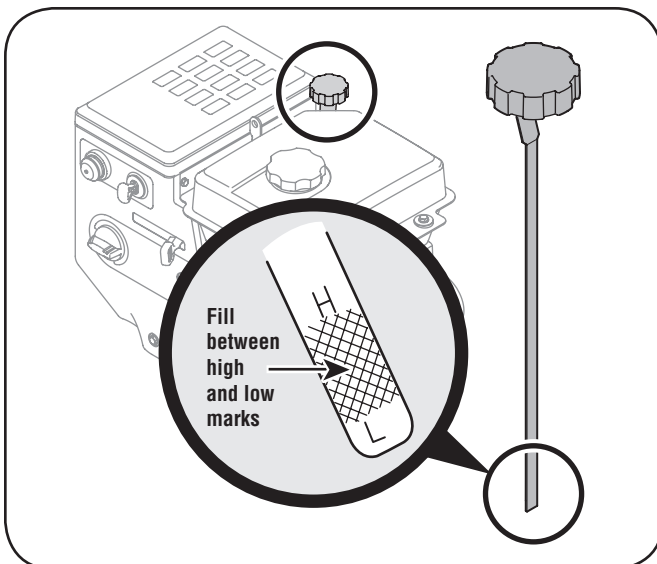

Figure 6-1
3. Remove the oil filler cap/dipstick. If level is low, slowly add oil until oil level registers between high (H) and low (L). See Fig. 6-1.